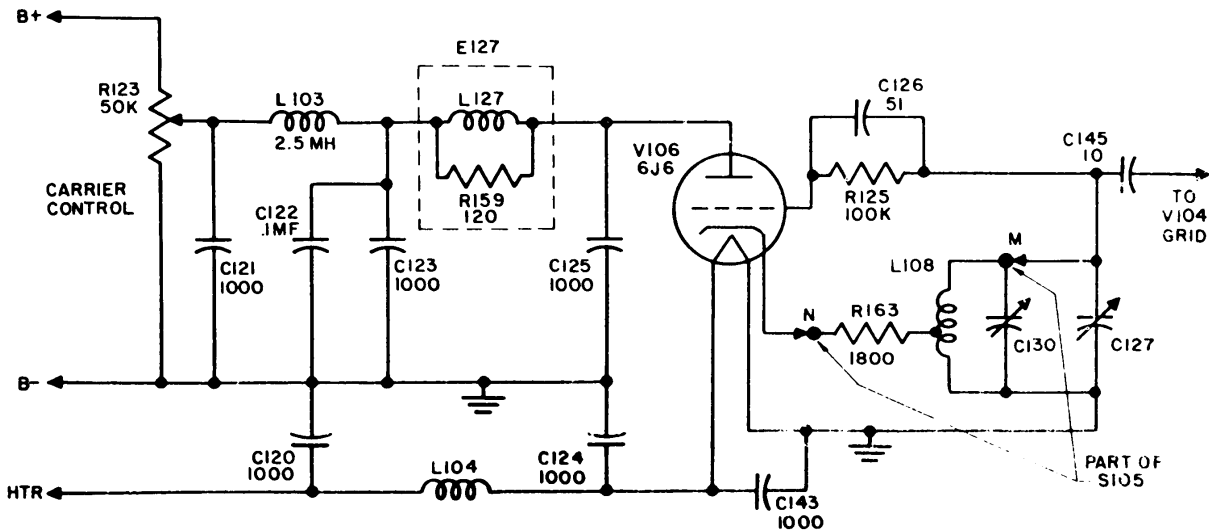

Figure 2-2. Simplified Schematic Diagram of the Carrier Oscillator
(See figure 2-2).
c. The principal electrical features of the carrier oscillator are shown in the simplified schematic diagram, figure 2-2. For purposes of simplifying the circuit analysis, the mechanics of the FREQUENCY BAND SWITCH (S-105) have not been included in this figure. M and N represent the contact positions of the FREQUENCY BAND SWITCH (S-105) when set at band E. The details of the carrier oscillator are covered in the overall schematic diagram (figure 6-23) near the end of Section 6.
d. The oscillator tube (V-106) is a type 6J6 dual triode with both sections connected in parallel. The frequency of the oscillations is determined by the L-C constant of the resonant tank circuit. The main tuning capacitor (C-127) is of the straight line frequency type, designed to give a linear frequency change with rotation except at the extreme ends of the frequency range. All frequency bands, with the exception of the highest band (H), can be calibrated by adjustment of the associated trimmer capacitor and variable iron core inductance. If necessary, band H can be calibrated by varying the spacing between the turns of L-105. This is discussed in Section 6, par. 9.